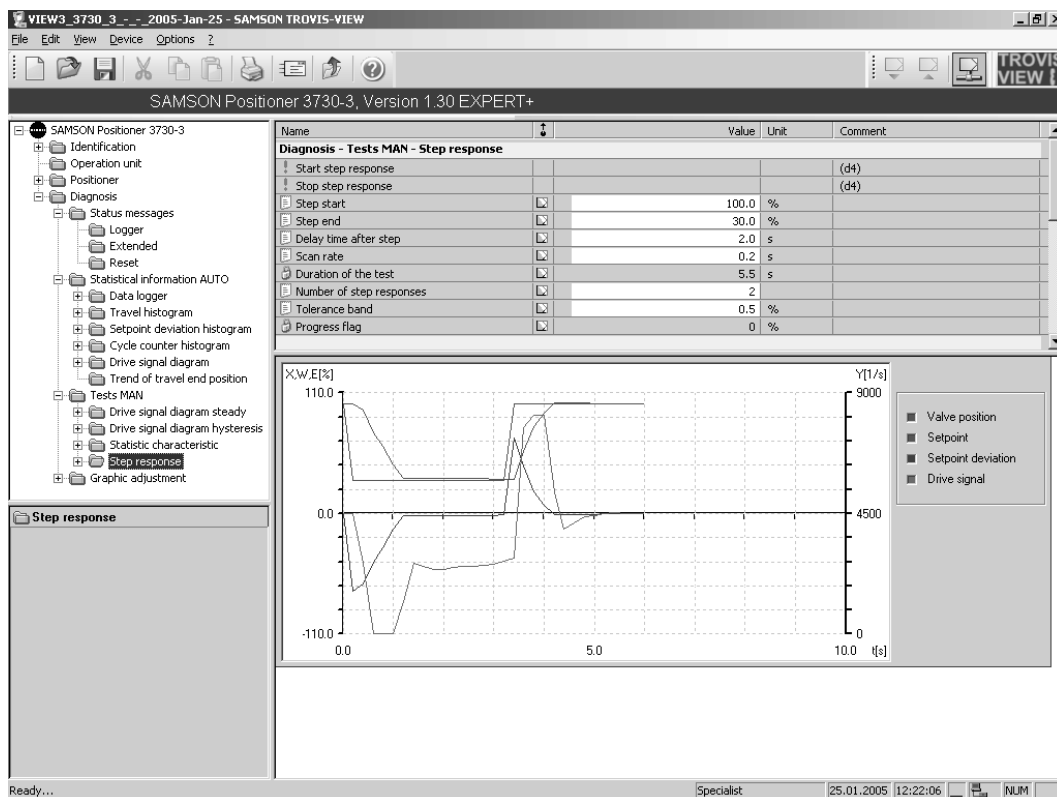

Fig. 7 · Testing the dynamic control response, step response
2.3.2 Step response (checking the dynamic control response, Fig. 7)